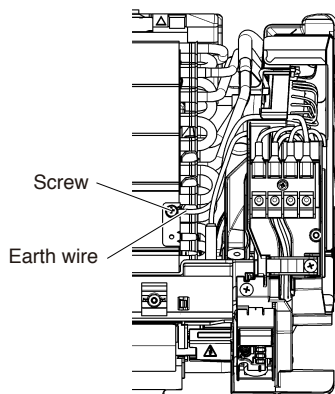

Fig. 21
- (4) Remove a screw on the terminal board. (Fig.21)